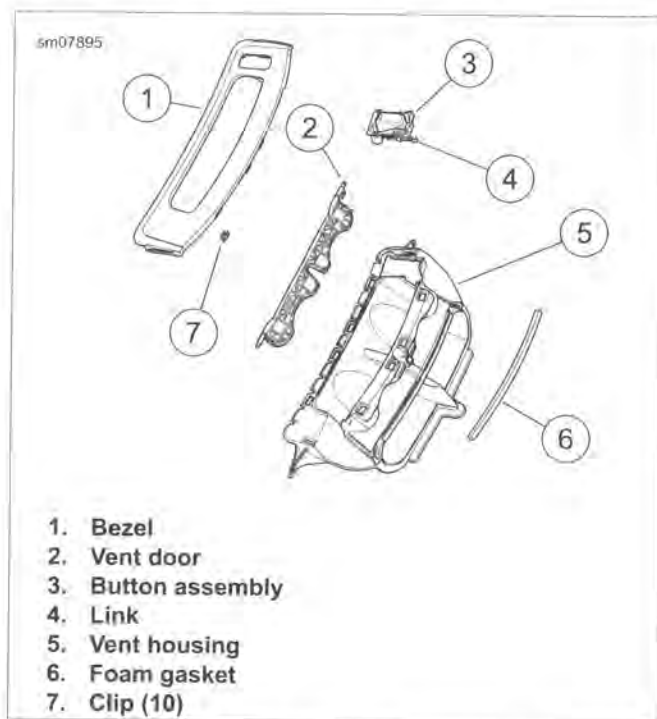

Figure 2-146. Fairing Vent Assembly
2. See Figure 2-146. Using a thin flat tool, carefully pry between housing (5) and bezel (1) at each of the ten retainer clip locations. Remove bezel.
3. Replace any damaged or missing clips (7).
4. Disconnect link (4) from vent door. Remove vent door (2).
5. Press catches securing button assembly (3) and push out of vent housing.